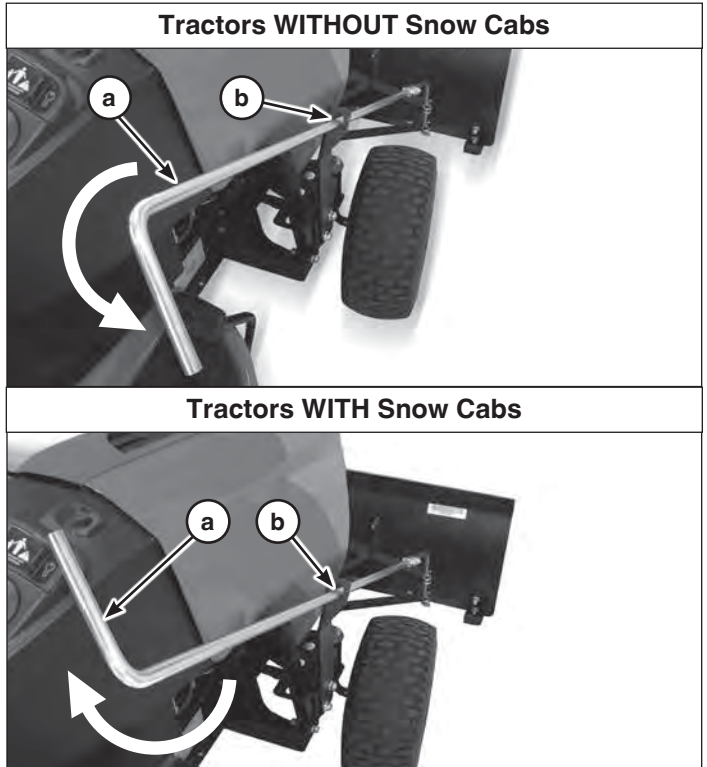

Figure 19
2. Put the top angle rod (**EE**, Figure 19) through the hole (**b**) in the lift support assembly.